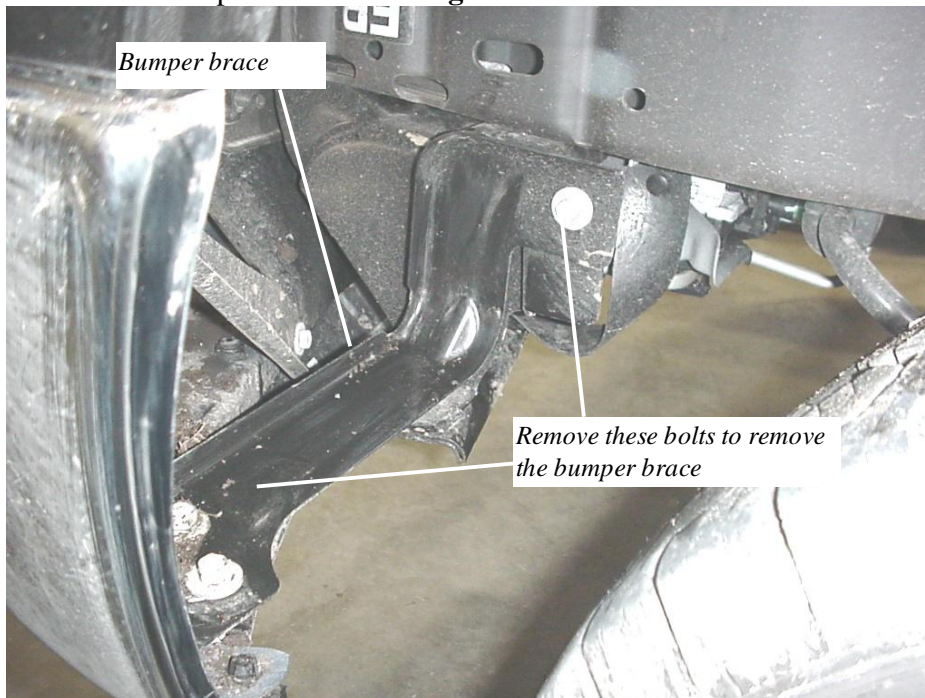

Figure 2 Rear of bumper end, LH
2. Remove the outboard bumper braces. **See Figure 2**